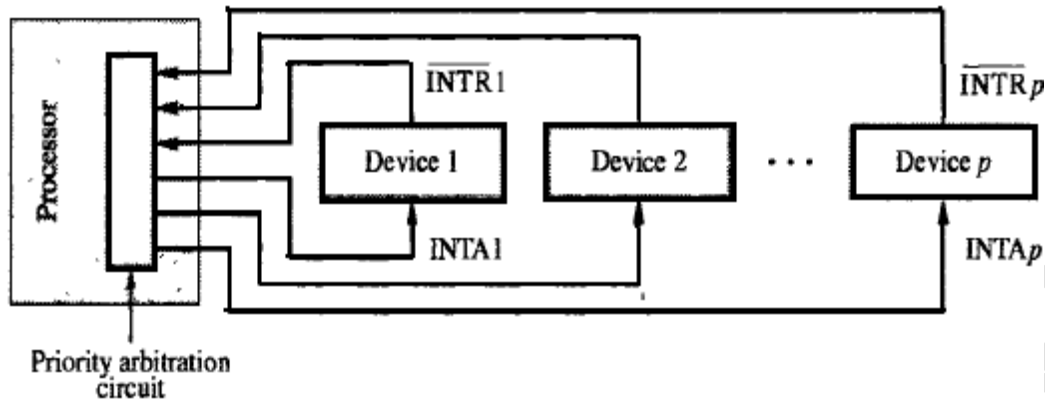

Figure 4.7 Implementation of interrupt priority using individual interrupt-request and acknowledge lines.
- Each INTR line is assigned a different priority-level (Figure 4.7).